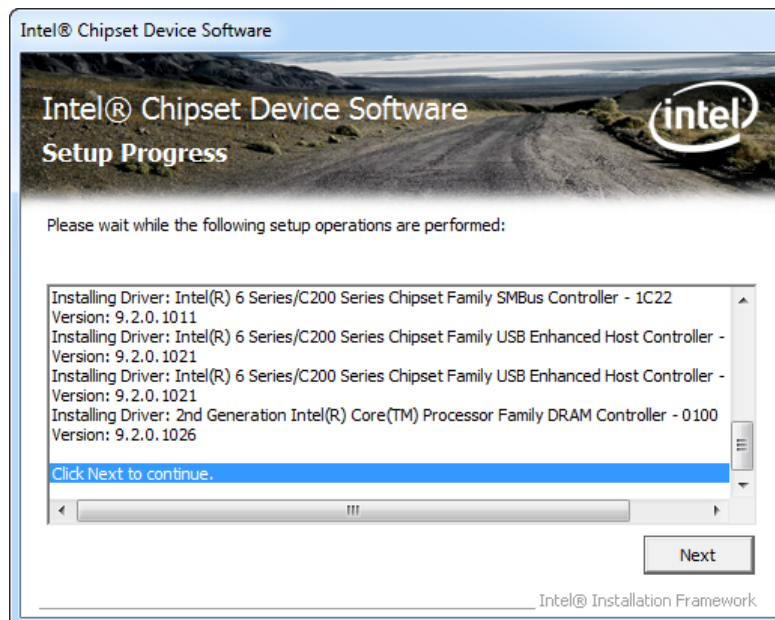

Figure 8-6: Chipset Driver Setup Operations
Step 12: **Setup Operations** are performed as shown in **Figure 8-6**.